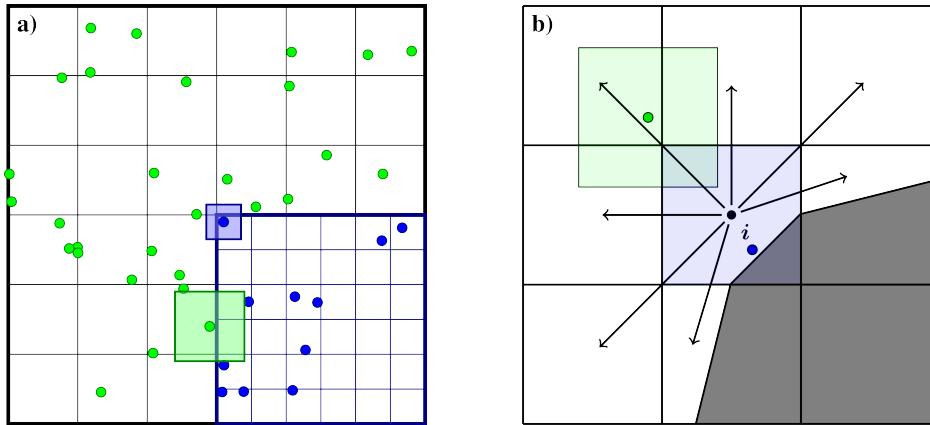

Fig. 3.4.2: Sketch of deposition schemes near refinement boundaries and cut-cells.
- `CoarseFineDeposition::Interp` This method permits the coarse-grid particles to deposit into the region underneath the fine grid. The deposited quantity is then piecewise interpolated onto the fine grid. The indicated coarse-grid deposition cloud in Fig. 3.4.2 will then add its mass into two layers of fine-grid cells.